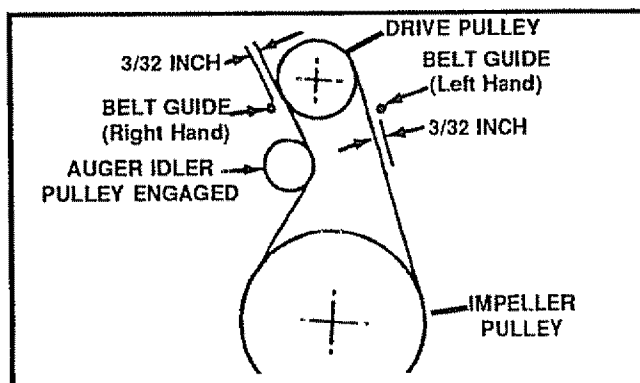

FIG. 28
- Loosen the belt guides (See Fig. 28) and pull away from the drive pulley.
- Loosen the auger idler pulley (See Fig. 28) and slip the belt out.
- Measure the distance between the belt guides and the belt (See Fig. 28). The distance should be  $3/32$ " for each guide.